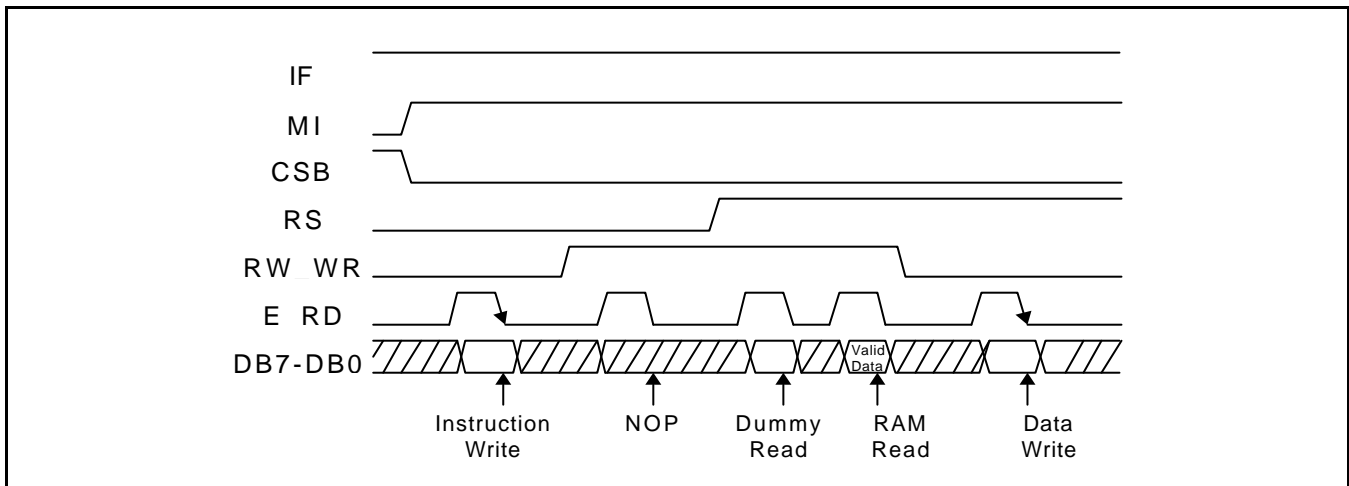
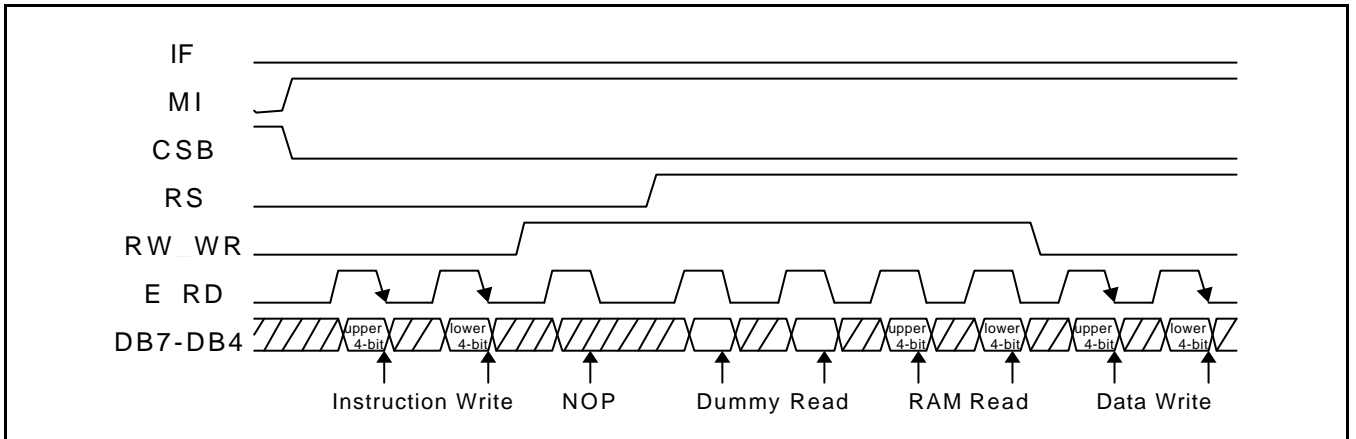

Figure 3. Timing Diagram of 8-bit Parallel Bus Mode Data Transfer (68-series MPU Mode)
Figure 5. Timing Diagram of 4-bit Parallel Bus Mode Data Transfer (68-series MPU Mode)
During reading operation, 8-bit register, output data register (OR) is used. The output data register (OR) is used as temporary data storage place for being read from DDRAM / CGRAM / ICONRAM and one of these RAM is selected by RAM address setting instruction. After RAM address setting, first reading is a dummy cycle in 8-bit bus mode (figure 3, 4). The valid data comes from second reading. In 4bit bus mode, after RAM address setting, first and second reading are dummy cycles (figure 5, 6). The valid data comes from third reading. The dummy read make the address counter (AC) increased by 1. So it is recommended to set address again before writing. The instruction read cycle is not supported and it is regarded as a no operation cycle.